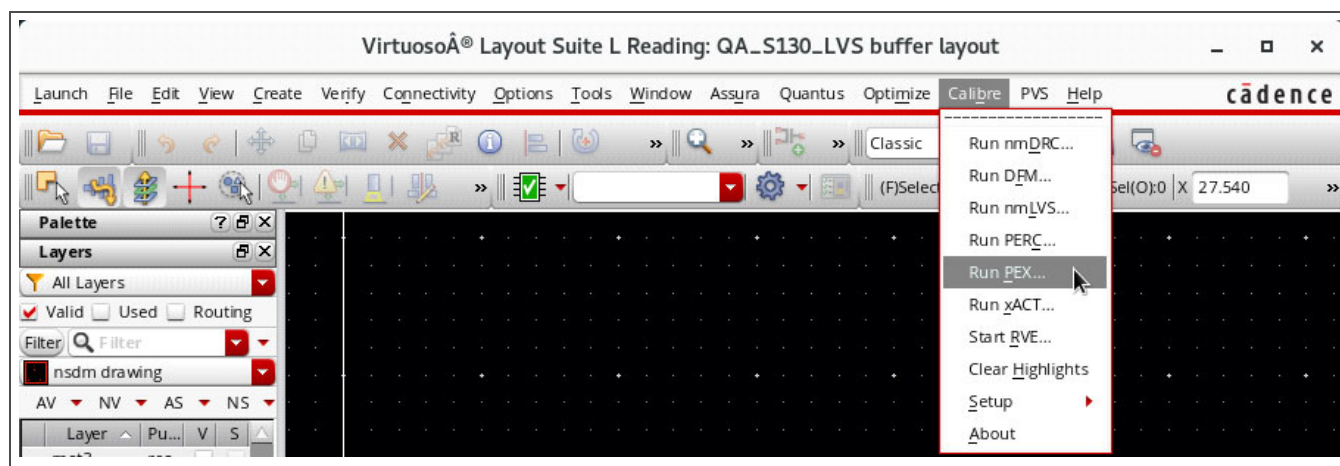
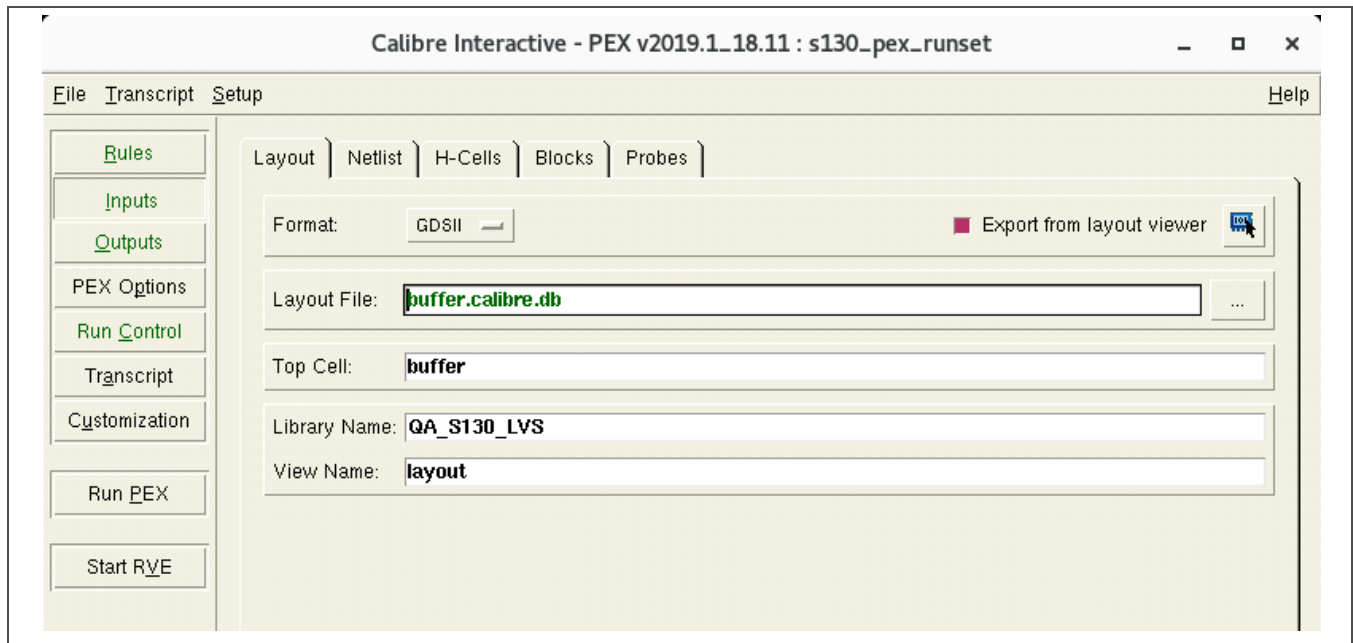

Figure 6-1. Calibre Tools Menu
Figure 6-2. Calibre PEX Runset Form
1. From the layout view, select **Calibre > Run PEX...**, as shown in *Figure 6-1*, to open the Calibre user interface PEX runset form shown in *Figure 6-2* on page 91 that has all the fields populated with the information needed to execute the run.